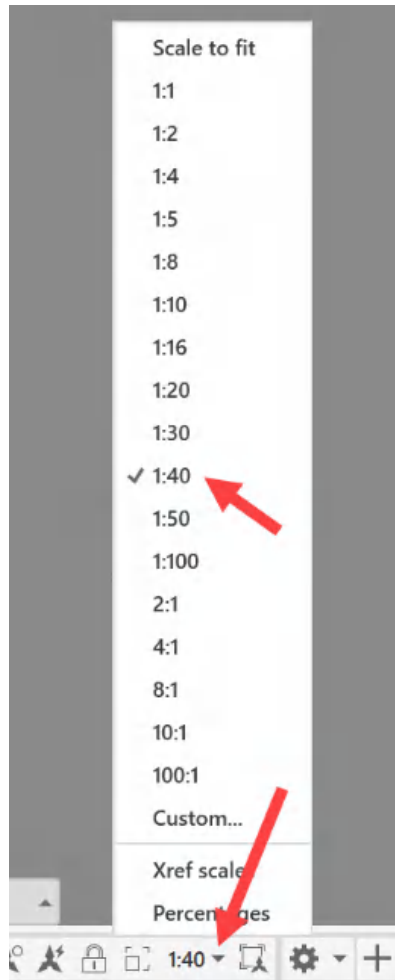

Figure 8.6: Available viewport scales in the displayed scale list
2. With the viewport scale displayed at **1:40** in the status bar, select the flyout arrow next to the viewport scale. The list of available scales is displayed in *Figure 8.6*: